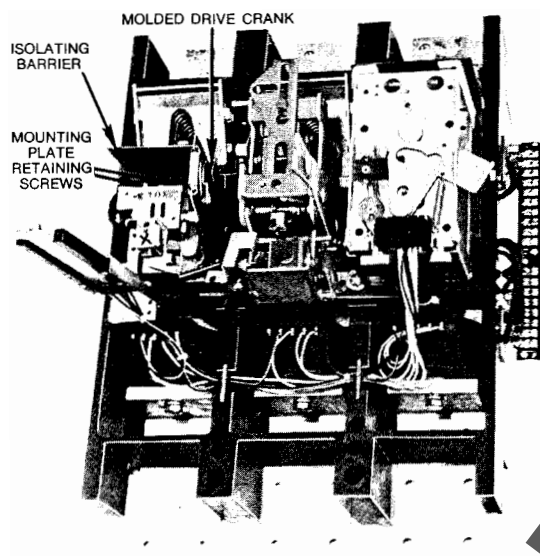

FIG. 26
1. Replace molded drive crank onto mechanism drive pin engaging roll pins into slot in drive crank. (See Fig. 26).
2. Place mounting plate in position so that its two (2) operating studs engage the molded drive crank, see Fig. 26. Be sure isolating barrier is between mounting plate and crossbar.